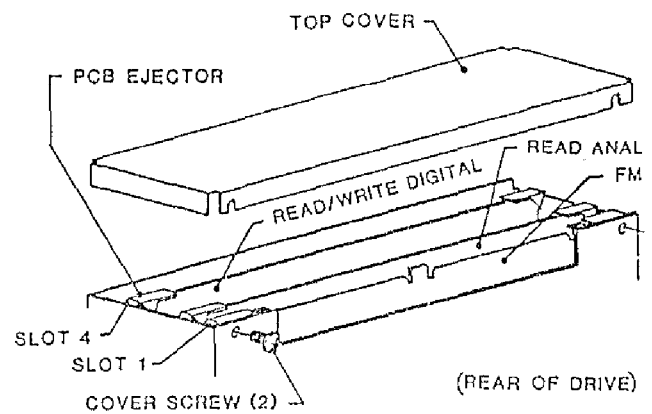

Figure 5-3.
5.3.1 PRINTED CIRCUIT BOARDS IN CARD CAGE (Fig. 5-3)